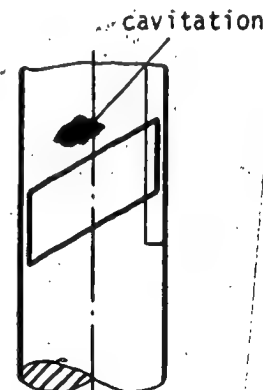

Fig. 2
- material has been cut away above the control edge (Fig. 2);